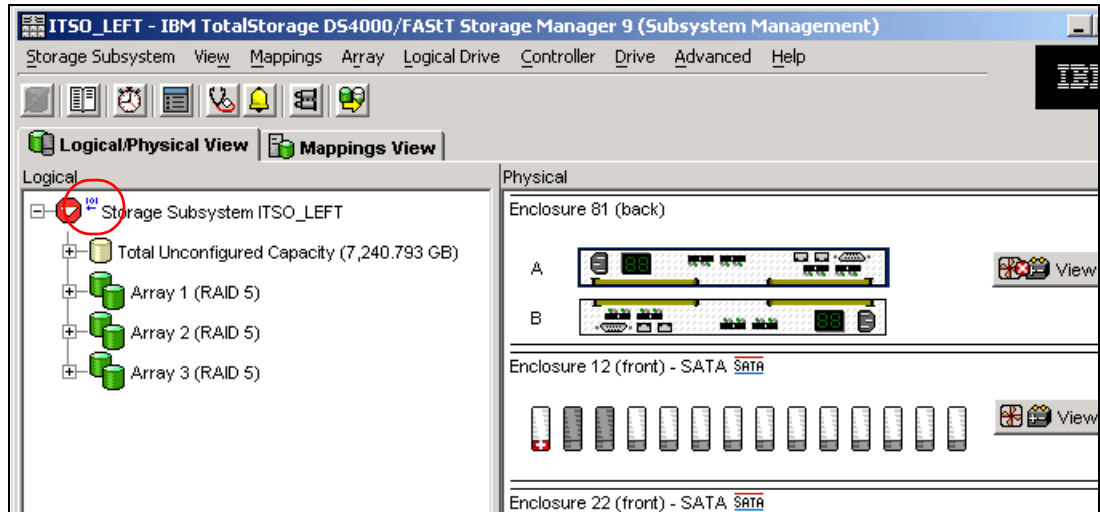

Figure 3-32 Subsystem Management window - Firmware ready for activation
- After clicking **Close**, you are back in the Subsystem Management window. Because this is a staged firmware upgrade, the new firmware is now ready for activation. This is indicated by an icon (blue 101) next to the Storage Subsystem name (as shown in Figure 3-32).